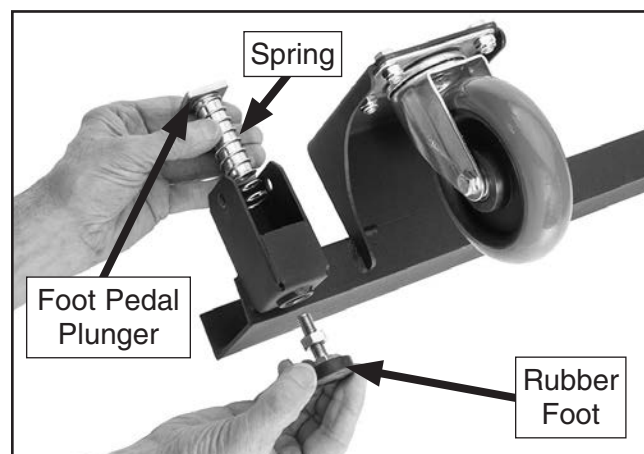

Figure 6. Installing foot pedal plunger, spring, and rubber foot.
6. Install foot pedal plunger and foot pedal spring into each side of support bracket (see **Figure 6**), and attach a rubber foot (with M10-1.5 hex nut) to bottom of each foot pedal plunger.